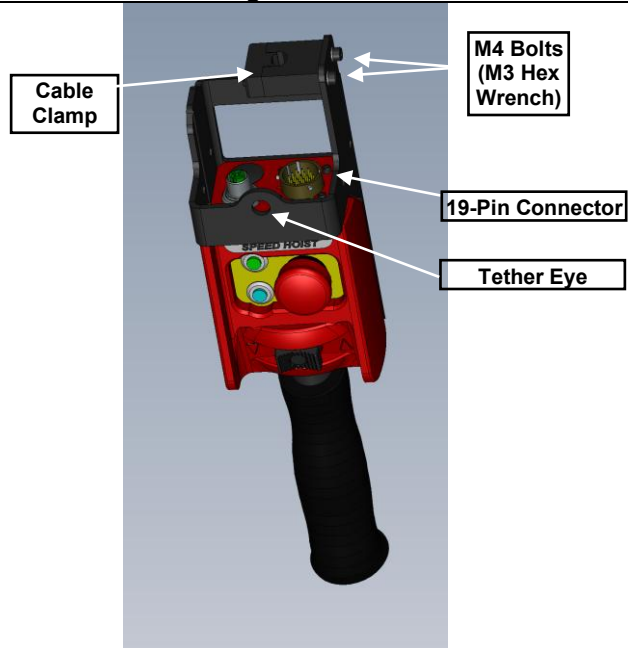

Figure 2-11 Pendant analog rocker switch P/N# KCA1213
- 4) Remove pendant cable clamp by removing 2 M4 screws. (Refer to Figure 2-11)